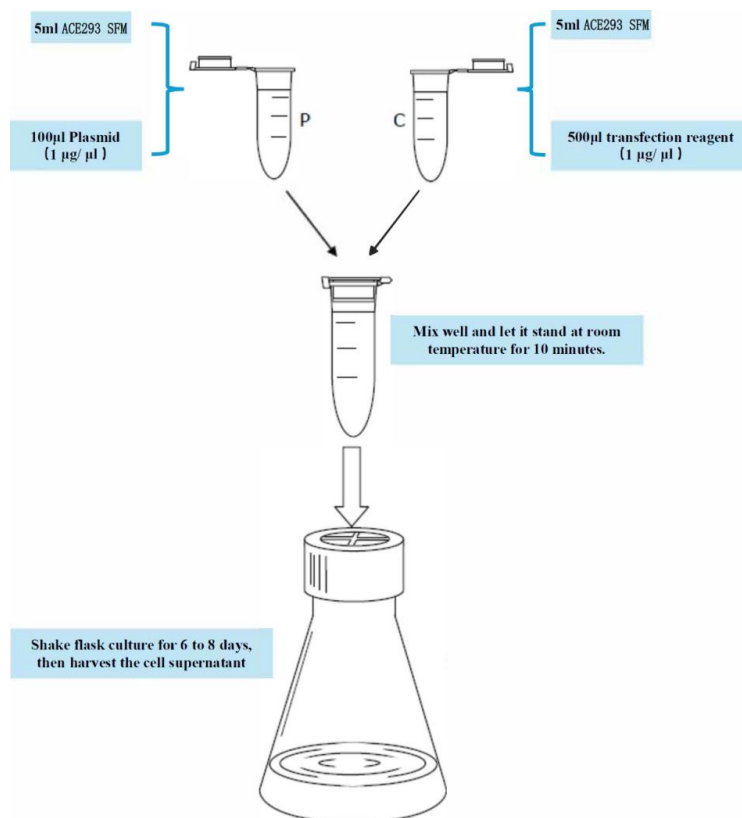

Figure 1. Preparation of plasmid-vector complex
- (1) Prepare two 15ml sterile centrifuge tubes. To one tube, add 5ml ACE293 SFM and 100 μ g sterile plasmid DNA, mix gently by pipetting; take the other tube, add 5ml ACE293 SFM and 500 μ l ACE Trans transfection reagent, mix gently by pipetting (see Figure 1);
- (2) Transfer all liquid from the tube containing transfection reagent to the tube containing plasmid, mix gently by pipetting;
- (3) Let stand at room temperature for 10min to complete preparation of plasmid-vector complexes;
- (4) Remove cells from constant-temperature shaker, slowly add the prepared plasmid-vector complexes while shaking, then return to CO₂ constant-temperature shaker for suspension culture. After 3 hours, appropriate antibiotics may be added if needed.